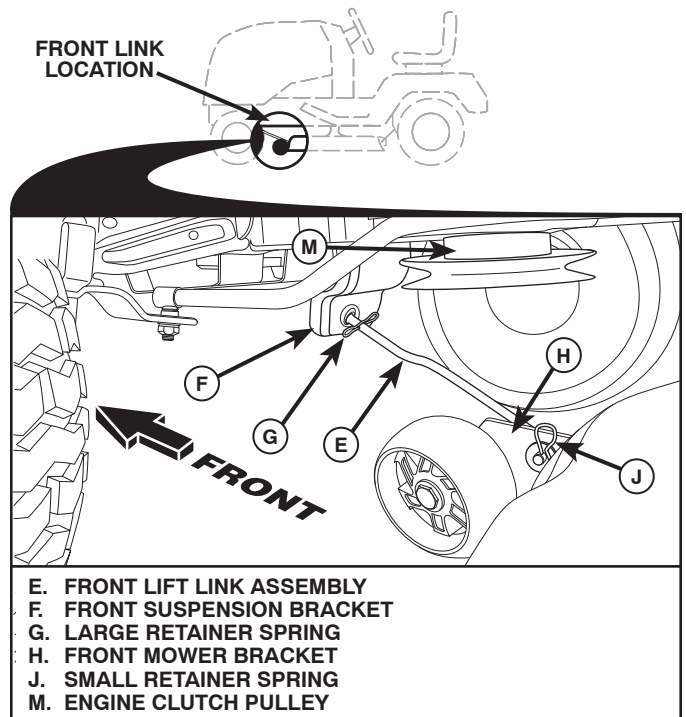

Fig. 14
## 8. ATTACH FRONT LINK (E) (See Fig. 14)
- From front of tractor, insert rod end of front link (E) through front hole in tractor front suspension bracket (F).